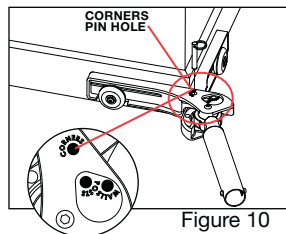

Figure 10
B. For stretching off corners (or square posts), the tail block must be folded to a 90° angle, but the tube still needs to swivel freely. Remove the lock pin, fold the legs to a 90° angle, and reinsert the lock pin into the back left hole marked "CORNERS". (See figure 10.)